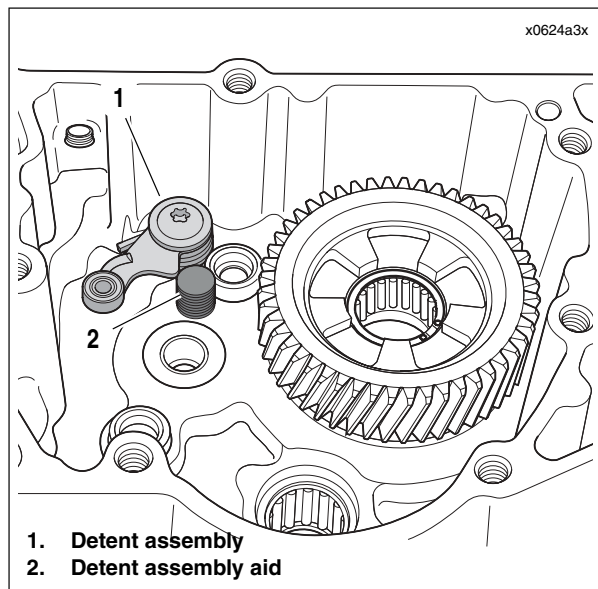

Figure 6-92. Using Gear Detent Assembly Aid (Part No. B-45520)
2. See Figure 6-92. Retract detent assembly in right case half and install GEAR DETENT ASSEMBLY AID (Part No. B-45520) until it has bottomed in right case half.